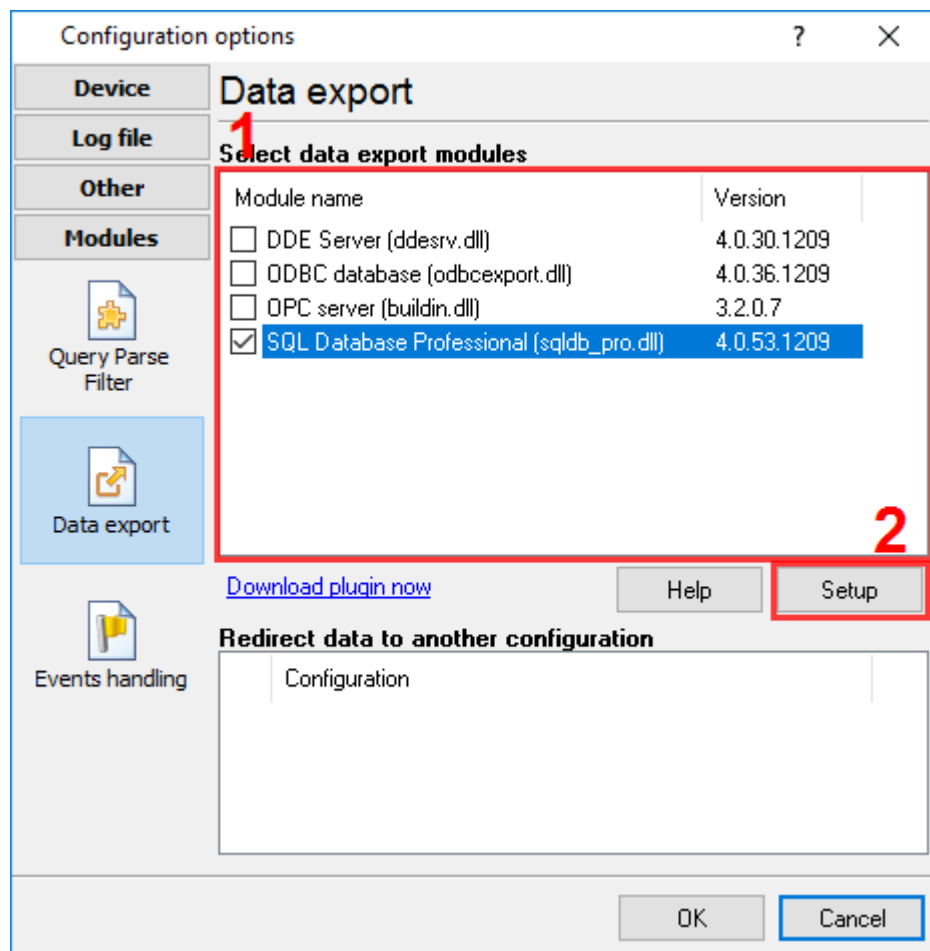

Figure 2. Data export module
4. Switch to the “Modules — Data export” tab and check the “SQL Database Pro” checkbox (Figure 2).